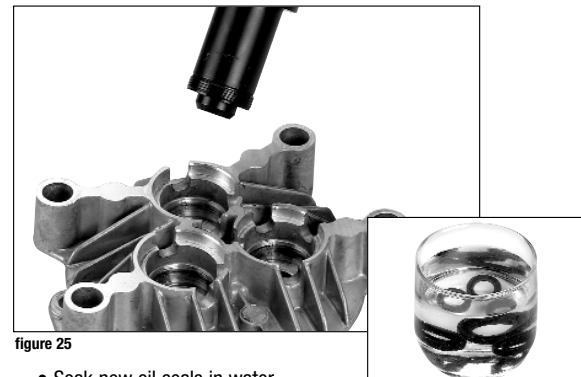

figure 25
- Soak new oil seals in water for 10 minutes. (inset figure 25)
- Place seal in housing using installation tool. (figure 25)